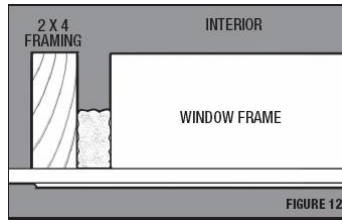

Figure 12
6.5.1 Apply foam to a depth of approximately ½ of the depth of the cavity between the window frame and the rough opening (Figure 12).